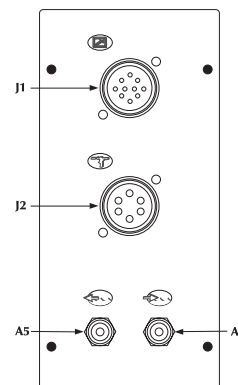
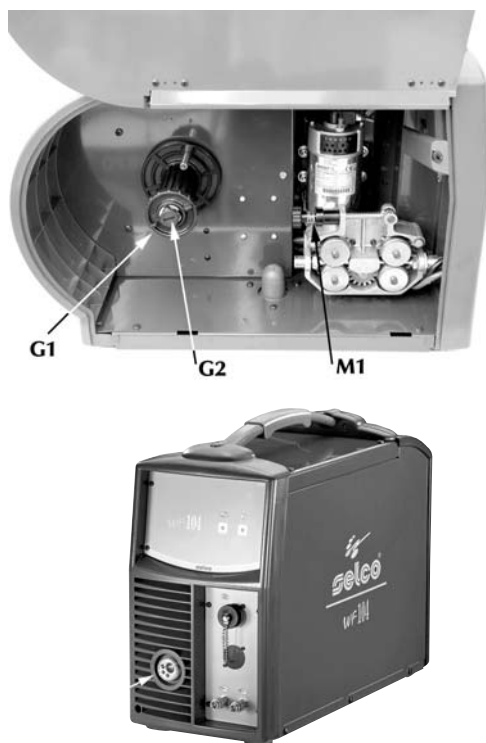

Fig. 19
Fig. 21 Details of the mobile trolley
- Unscrew the ring nut (G1 fig. 21) from the coil reel and insert the coil.
Fit the reel metal pin into its housing, replace the ring nut (G1) and adjust the friction screw (G2 fig. 21).
- Release the feed support of the gearmotor (M1 fig. 21), sliding the end of the wire into the wire guide bush and, passing it over the roller, into the torch fitting.
- Insert the torch, complete with sheath, into the central fitting (C1 fig. 21), fully tightening the ring nut. If the torch is water-cooled, connect the delivery and return pipes to the couplings (A5-A6 fig. 19).